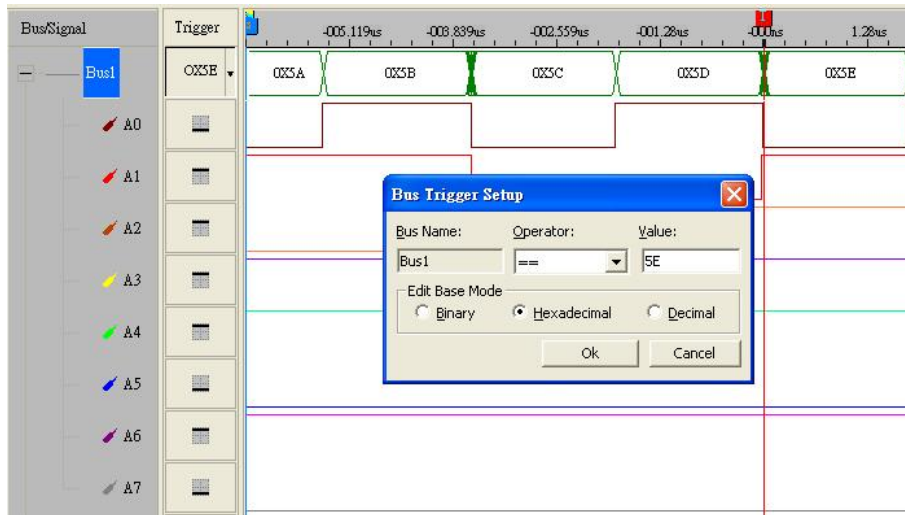

Fig 4-26 – Bus Trigger Setup
Step 4. Click run and activate the signal from the tested board to the system to get the result as shown in Fig 4-26.